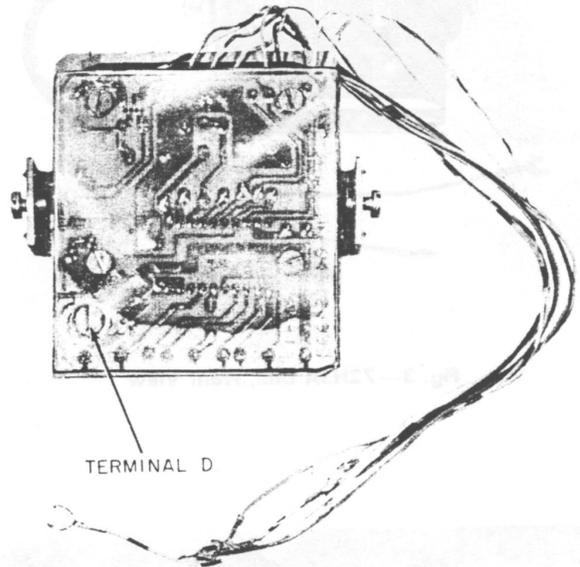

Fig. 2—72C3A (MD) Dial, Rear View
2.06 Each dial has eight spade-tipped leads (Fig. 11, 12, 13, and 14) for connections to the telephone set network and one screw terminal (D) located on the back side of the dial (Fig. 2, 4, 5, 6, and 7) where a line switch lead terminates.◆The Z72JG3B and Z72JG3BE dials have a cable assembly for connections to the telephone set instead of spade-tipped leads and terminal D (Fig. 15 and 16).◆